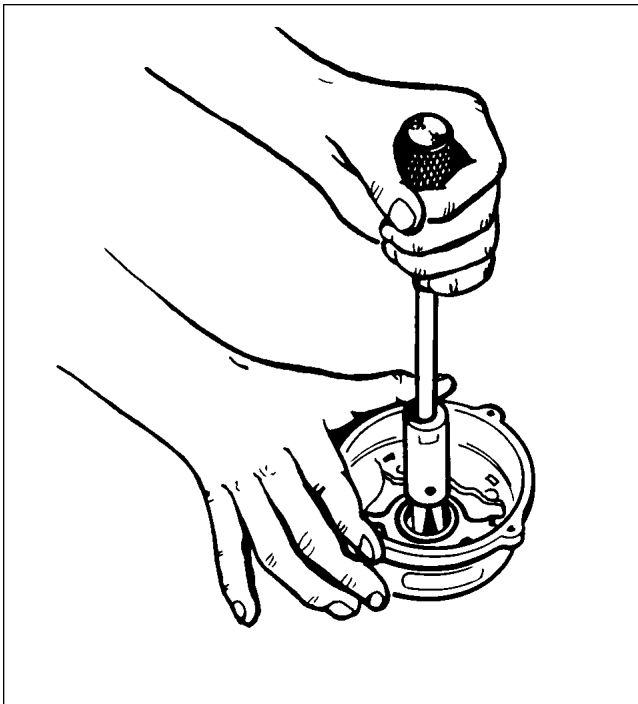

Figure 24-44. Removal of Slip Ring End Bearing
- e. To remove slip ring end bearing and grease seal, have a hook type or impact type bearing puller as shown in Figure 24-44. Remove and replace bearing.